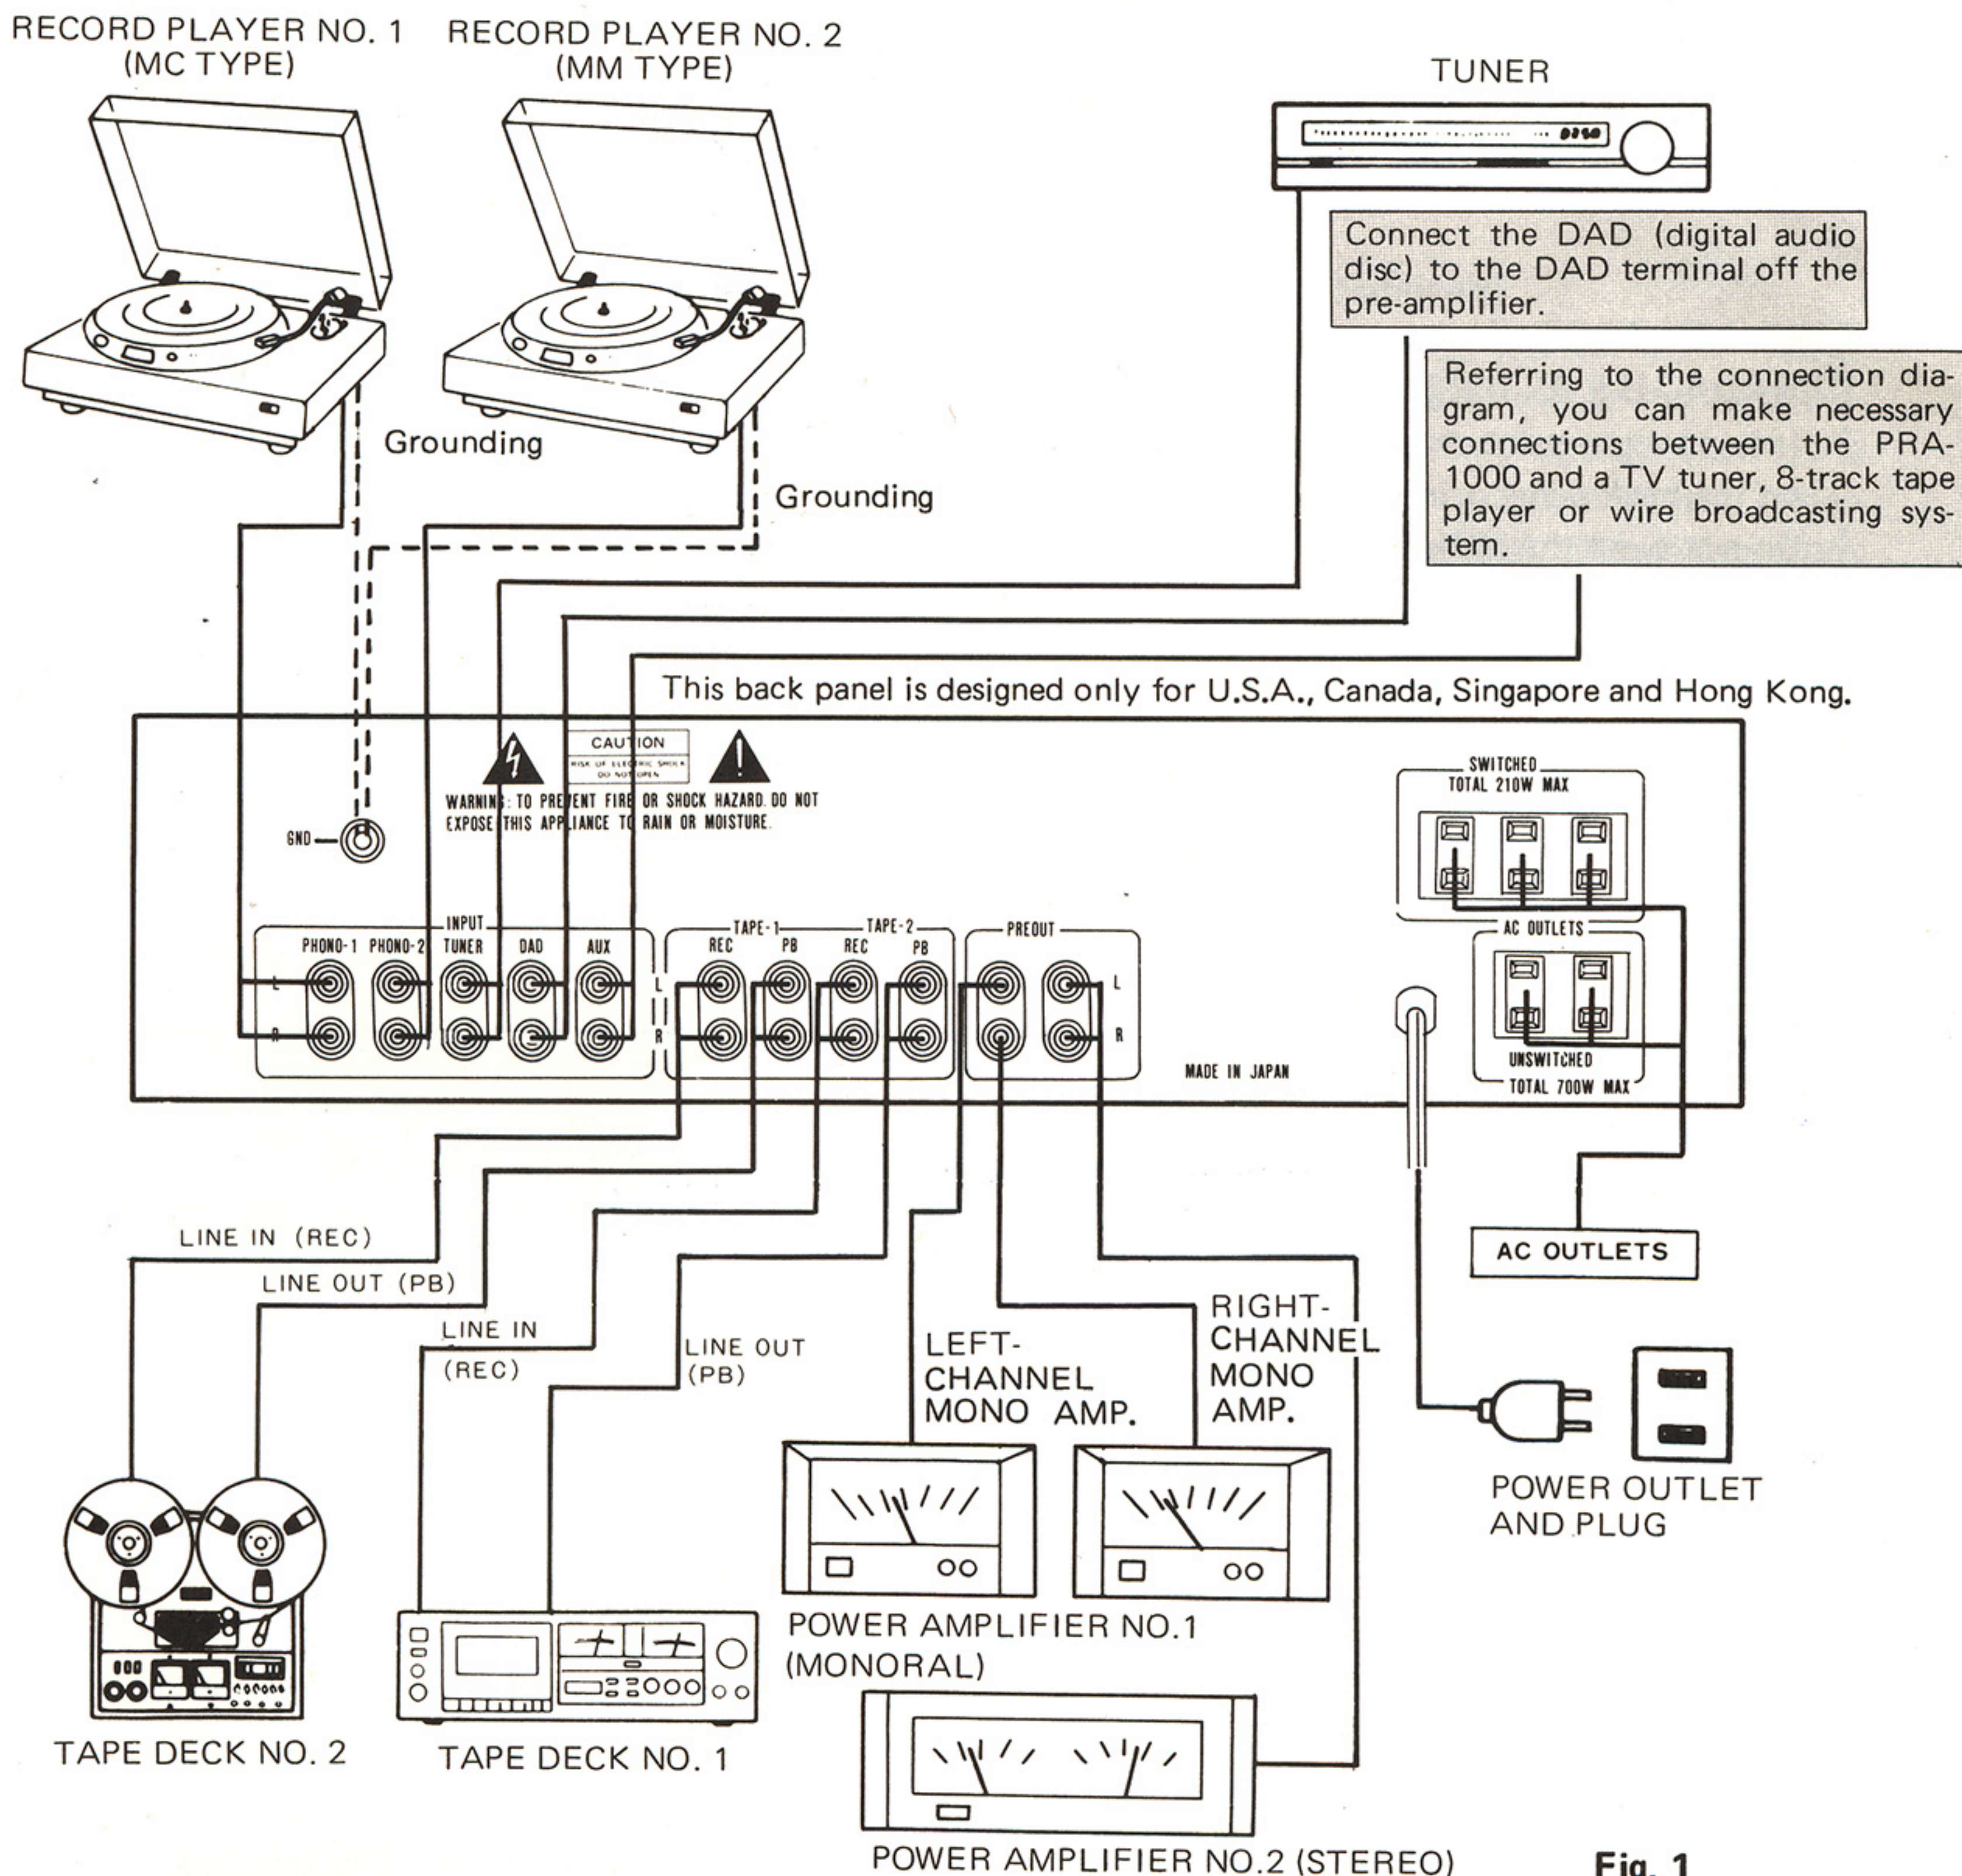

Fig. 1
- Referring to the connection diagram (Fig. 1) make sure that all connections have been made properly.